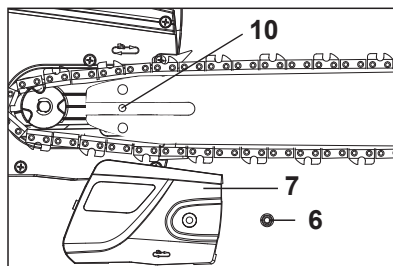

Fig. 1f
- 8). Pre-tighten the saw chain (3) turning the tension screw (9a) clockwise with the multitool (23)).
- 9). Replace the cover (7) and slightly tighten the retaining nut (6) (Fig. 1f).